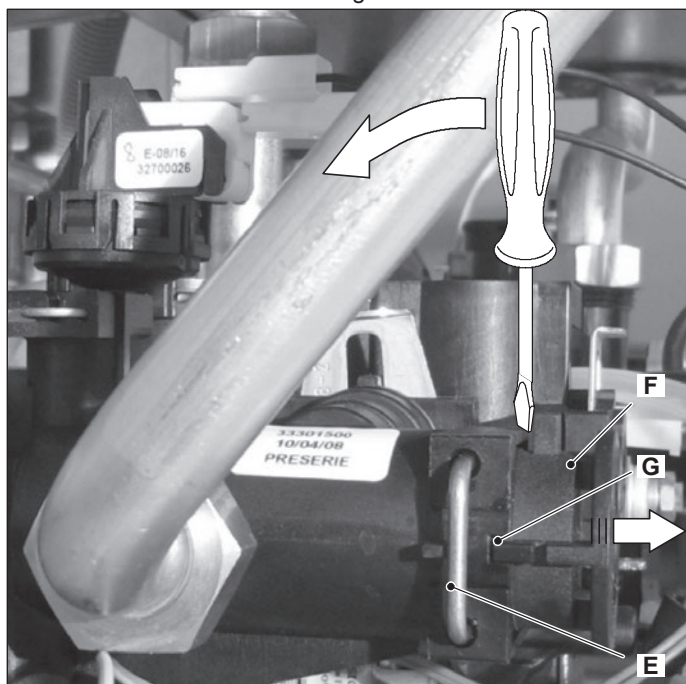

Figure 9.5
- 4 Remove the fixing spring E (Figure 9.5)
- 5 Remove the tree way diverter valve F by levering with a screwdriver in as shown in Figure 9.5.
Warning: When reassembling the tree way diverter valve be sure that the tree way diverter is correctly oriented by matching the reference G with the notch of the water group Figure 9.5.